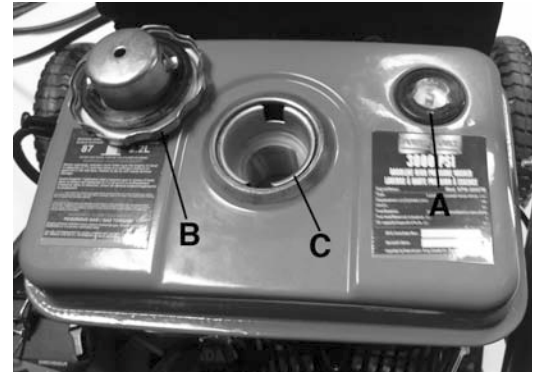

Figure 5
Check the fuel level indicator window (A) Fig.5, if the red float gauge is all the way up, it is not necessary to add fuel. If you do not see or hardly see the red float gauge, it is necessary to add fuel.
- 1) If it is necessary to add fuel, first make sure the engine is OFF, then remove the fuel cap (B) by turning it counterclockwise.
- 2) When refueling, make sure the fuel filter (C) Fig.5 is in place and keep in mind all safety precautions and make sure to add enough fuel based on usage. Use clean unleaded gasoline with a minimum of 87 octane. Do not mix oil with gasoline.